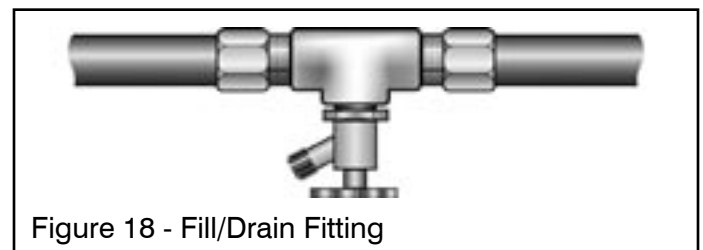

Figure 18 - Fill/Drain Fitting
1. To fill the Pelco Hot Water Boiler with water from inside the building being heated, install a "T" in the return or supply line with a valve and boiler fill/drain fitting (Fig. 18).